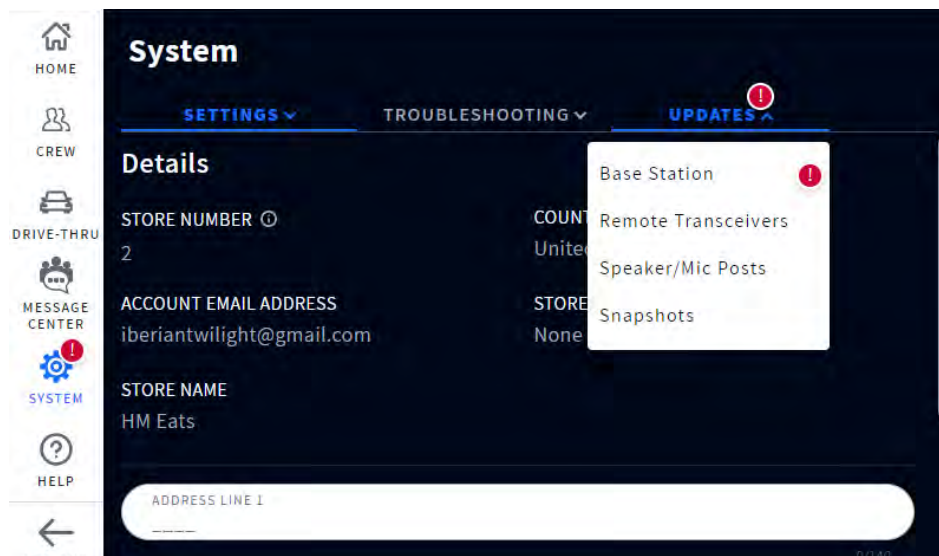

Fig. 6.3
2. Tap on the UPDATES tab. In this example, the Base Station option requires attention. See Fig. 6.3.